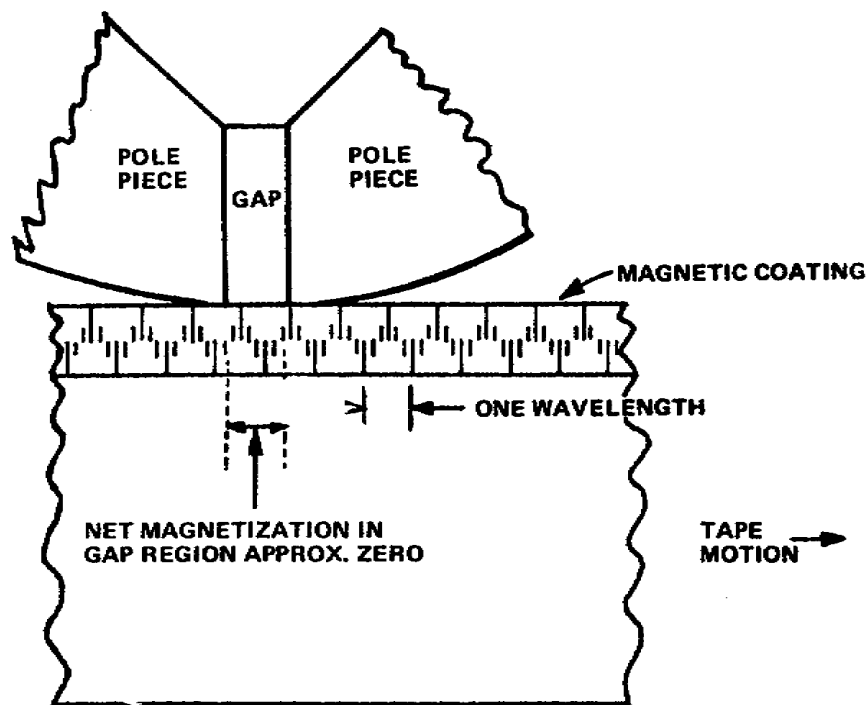

Figure 1-6. Wavelength limitations in tape playback
1. One of the most important factors that limit high frequency response is the width of the gap in the playback head. The effect arises because the output of the playback head depends on the total flux across the gap. At low frequencies no effect is discernible. However, when the frequency increases until the distance on tape occupied by one-half wavelength is less than the gap width, parts of both positive and negative half cycles appear across the gap simultaneously and start to cancel each other (fig 1-6).